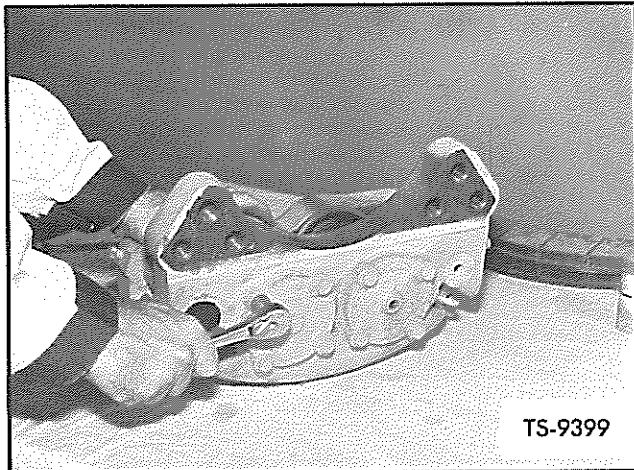

Fig. 16. Remove Bolts
7. Remove bolts holding piston retaining caps in place as shown in Figure 16.